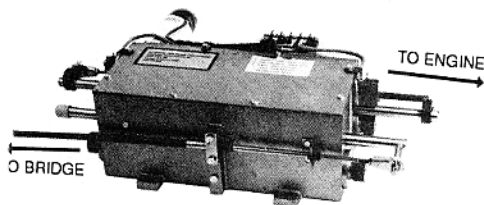

FIG. 2 STANDARD HOOKUP
- A. Secure bridge control cable or cables, removed from engine in Section C (A), to SYNCHRONIZER (See Fig. 2). Cable is placed in clamp between mounting pads before flat strap. If two cables are used, flat strap is sandwiched between cables. If length is excessive and cannot be "lost" effectively, bridge control cable should be replaced with a shorter one.
- C. To meet the requirements of limited space, or short bridge control cables, or for versatility of routing, provision has been made to route the bridge control cables to the SYNCHRONIZER in three (3) different methods (as below):